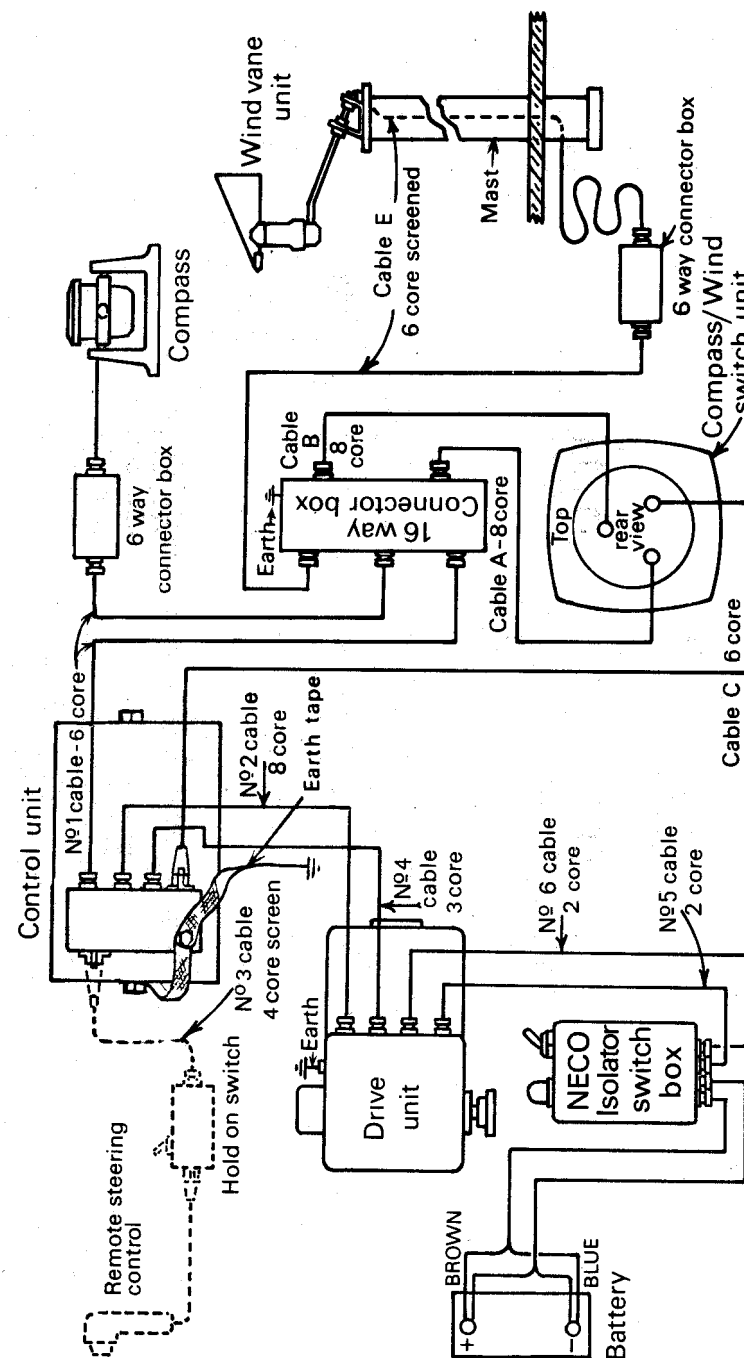

Figure 29
1. Starting from the Control Unit all cables should be routed as described hereafter and securely cleated. Care should be taken to ensure that no undue strain is placed on the cable glands. Lengths of cable are not critical but power carrying cables should be no longer than necessary. CAUTION to avoid rotation of the cables and possible strain, it is recommended that all cable glands are tightened BEFORE connecting up the lead ends, and that the lead ends are tinned. Refer to the Cable Interconnection Diagram Figure 29.